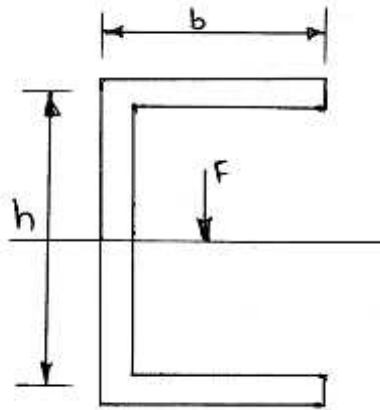

Figure 1b
- (b) Calculate the shear flow in channel section and resultant forces in the flange and web. Plot the shear flow variation. Shown in figure 1b. [4+12]